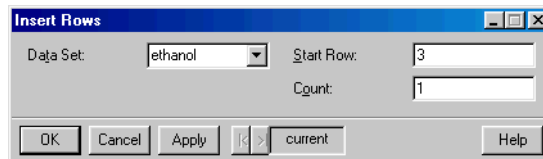

Figure 2.24: The *Insert Rows* dialog.
- From the main menu, choose **Insert ► Row**. The **Insert Rows** dialog opens, as shown in Figure 2.24.